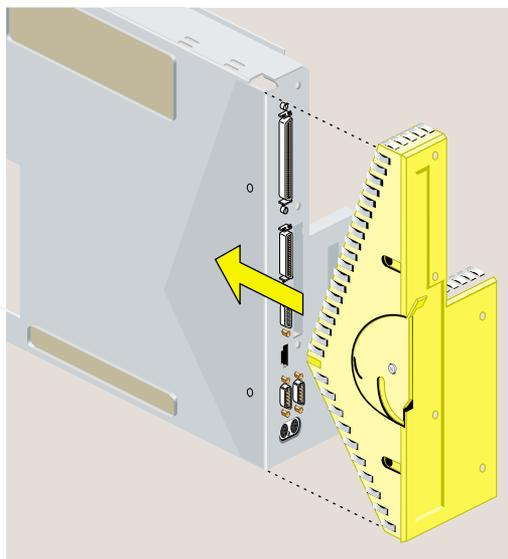

Figure 5-17 Replacing the Face Plate
12. Replace the faceplate by sliding it onto the system module, while at the same time lifting slightly at the “V” to snap it in place (Figure 5-17).